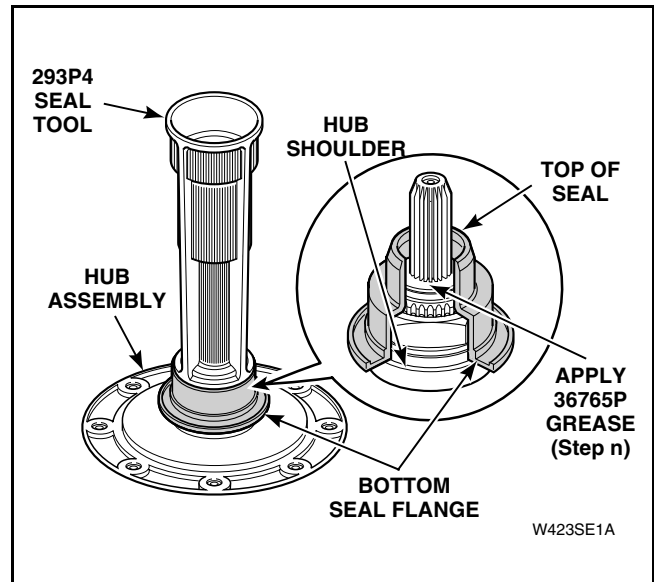

Figure 36
- p. Apply remainder of supplied grease, No. 36765P, to exposed surface of washer between transmission output shaft and seal. Refer to *Figure 36*.
- r. Turn the No. 293P4 Seal Tool upside-down and place the small end over transmission output shaft and onto the seal. Refer to *Figure 36*.
- s. Push down on tool with a quick motion until it bottoms out and the top of seal is fully seated. Refer to *Figure 36*.